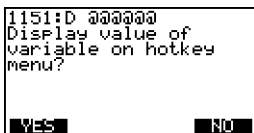

FIGURE 1-39. Variable Display Option.
6. Press **YES** (F1) to display the variable associated with the option on the Hot Key menu, or press **NO** (F4) to not display it. See **Figure 1-39**.